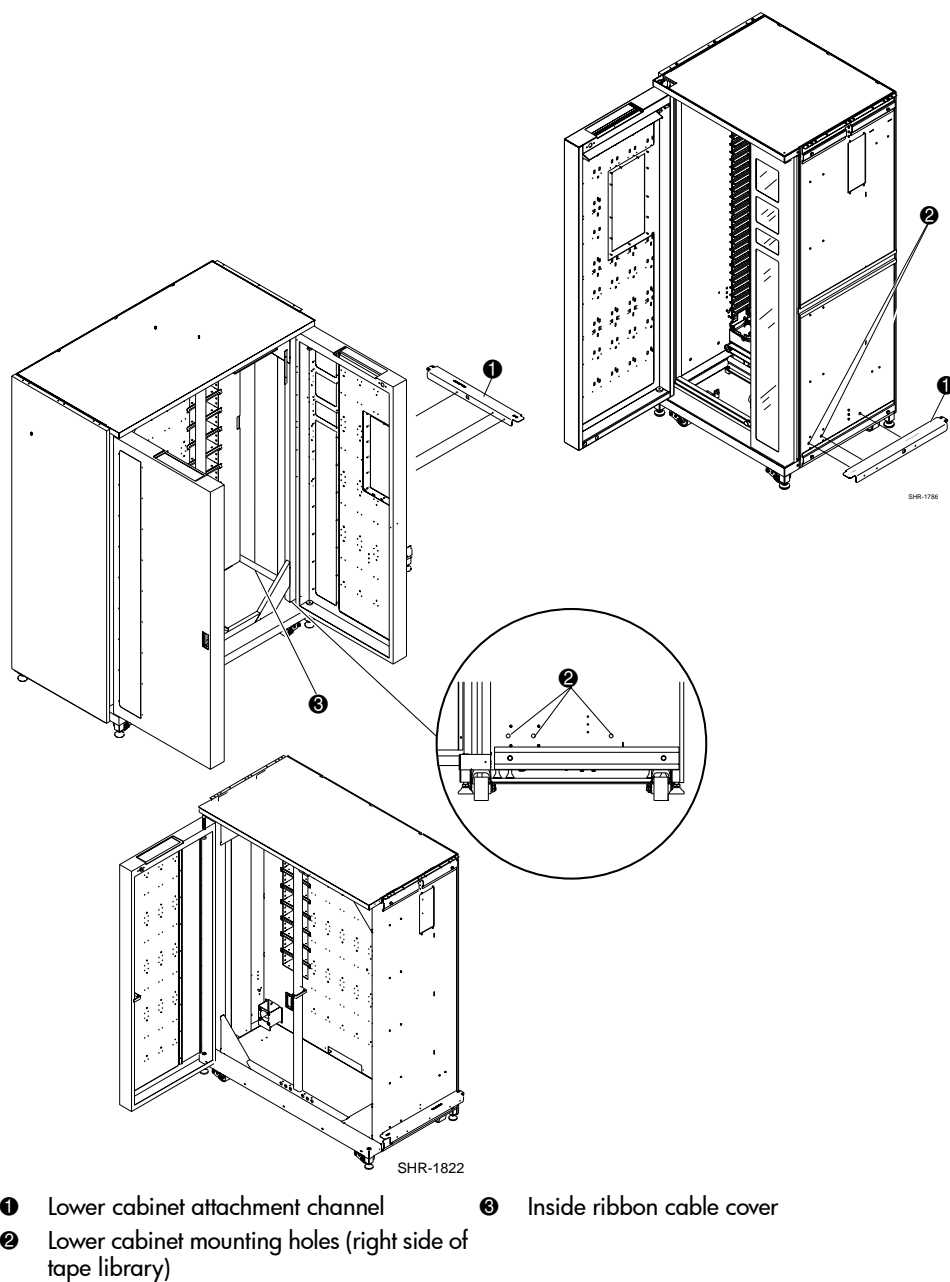

Figure 4: Installing the lower cabinet attachment channel (left tape library)
6. Install the lower cabinet attachment channel on the left library (❶ Figure 4 on page 23) using three bolts (P/N 0615113) and washers (P/N 0685521). Do not fully tighten. Allow the lower cabinet attachment channel to float freely.